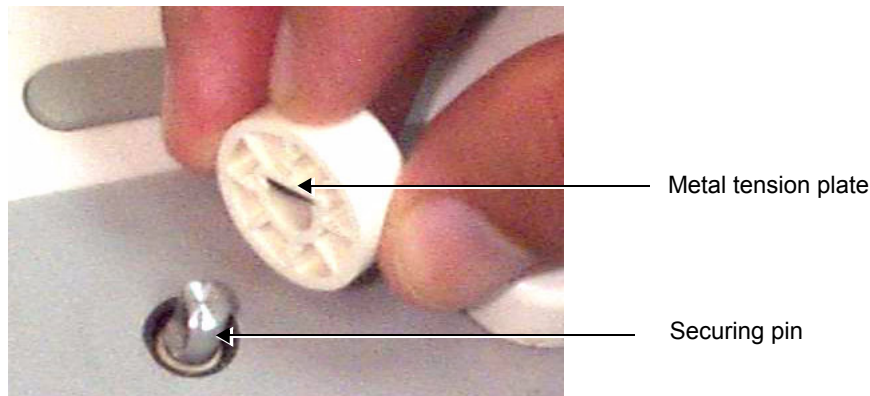

Figure 8-40 Tension Plate Fitted in Centre of Knob
- 4.) Carefully take out the metal tension plate from the centre of the knob (refer to Figure 8-40 on page 8-41), before discarding the defective knob. **Do not discard the tension plate.**
- 1) Using a new rotary knob, insert the metal tension plate (removed in step 4 above) into the centre of the knob, aligning the plate correctly with the notches on each side of the hole. The plate, which is slightly curved (to provide tension), should be positioned with the curved surface facing towards the center of the hole, as shown in Figure 8-40 below.
- 2) Carefully place the new rotary knob into position on the securing pin, taking care that the tension plate remains in position inside the knob, while aligning the core of the knob base with the flat-sided notch on the securing pin - see Figure 8-40, above.